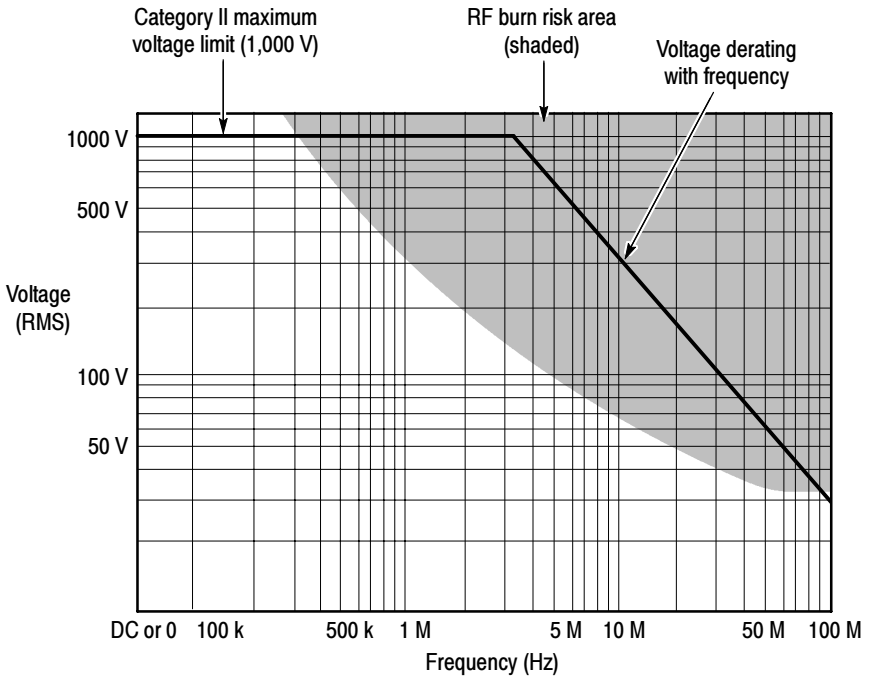

Figure 2: Safety limits (voltage between either input and earth ground)
WARNING. To avoid personal injury, do not handle the probe leads when the leads are connected to a source that is above the voltage and frequency limits given in Figure 2 on page 9. The area above these limits poses a risk of radio frequency (RF) burns.
CAUTION. To avoid damaging the input circuitry of the P5200 probe, do not apply a voltage that is more than 1,000 V_{RMS} CAT II between either input and ground or more than 1,300 V (DC + peak AC) between the two inputs. Above 3 MHz, the voltage limit decreases as frequency increases. See Figure 2 on page 9. The input limit applies to both the 50X and 500X settings.